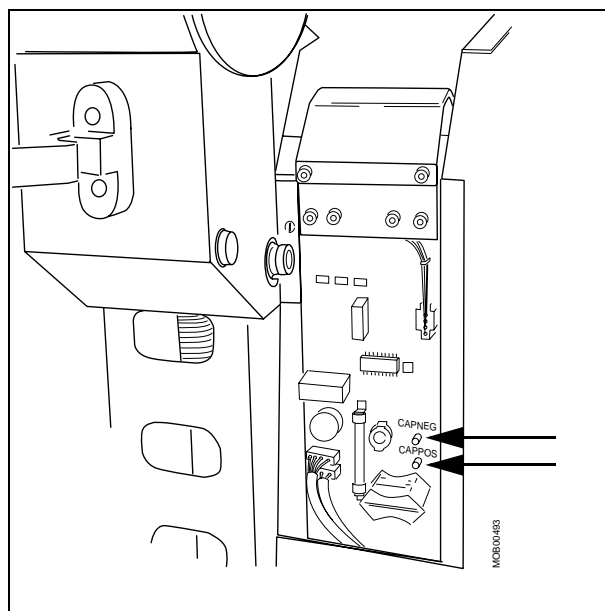

Fig. 2
- Measure the residual voltage at measuring points, CAPPOS and CAPNEG. The voltage must be less than 10 V (Fig. 2). If the voltage is measured to 0 V, the measuring device could be defective or the cables between the capacitor bank and CAPPOS, CAPNEG could be damaged. In this case, proceed as described in items a - e below to avoid personal injury.